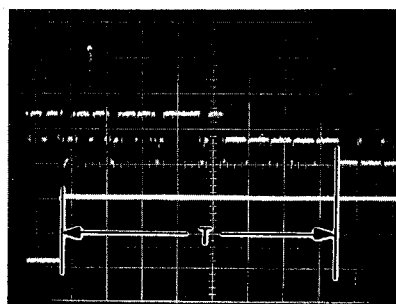

Fig. 25
- Adjust R246 in the servo section PD01 such that  $6.5 \pm 1$  lines prior to the frame sync. pulse are visible. (Fig. 25)